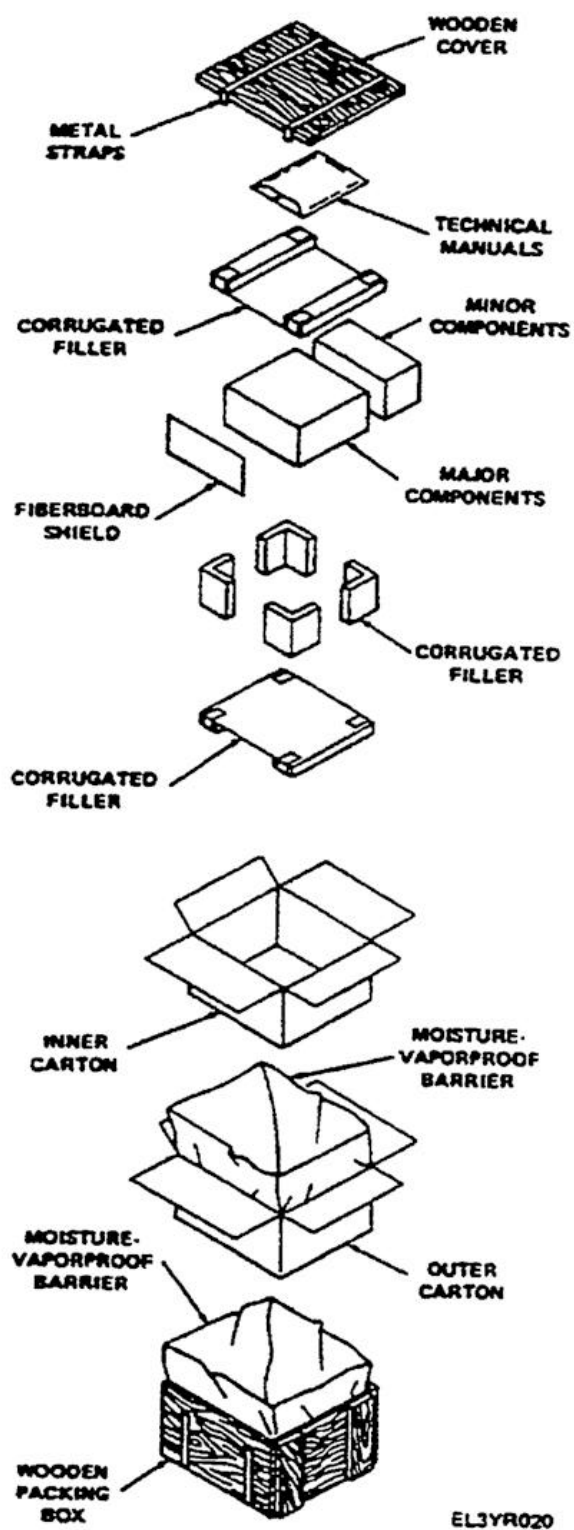

Figure D-6. Typical Packaging
(1) Battery, Dry BA-4386/U is a magnesium battery that has long life. The battery is provided with a female connector to mate with the battery connector on the RT-841/ PRC-77. The battery supplies 3 and 15 volts; the 3-volt output is not used by the RT-841/PRC-77.
(2) Battery, Lithium BA-5598/U has longer life than Battery, Dry DA-4386/U, but is half the size (smaller). It is a normal procedure to install two lithium batteries in Battery Box CY-2562/PRC-25. One battery is installed with its receptacle mating with the radio connector. The spare lithium battery is put in the battery box to take up the remaining room and to secure the other battery.
**D-15. Unpacking (Figure D-6).**